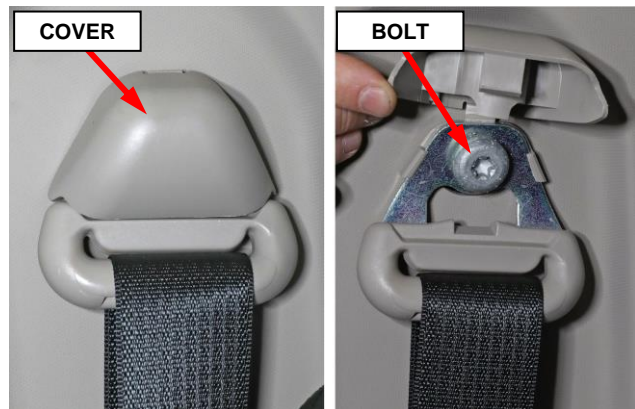

Figure 22 – Seat Belt Turning Loop
- 13. On the C-pillar, lift the seat belt turning loop cover then remove the turning loop bolt (Figure 22).
48. Using a **NEW** bolt and reusing the spacer, install the turning loop then tighten the bolt to 40 N·m (30 ft. lbs.) (Figure 22).
49. Install the seat belt turning loop cover (Figure 22).